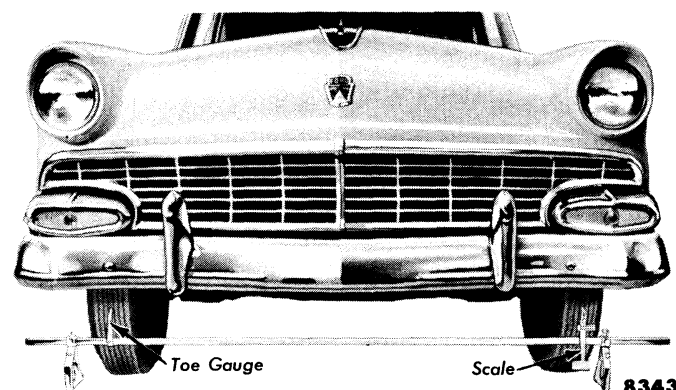

Fig. 2—Checking Front Wheel Toe
(11) **CHECK TOE.** Push the car backwards approximately six feet, then pull the car forward about three feet. Place a suitable toe gauge at the front wheels. The scale pointer will register toe. The toe-in should be $\frac{1}{16}$ to $\frac{1}{8}$ inch. Figure 2 shows one type of toe gauge in use.